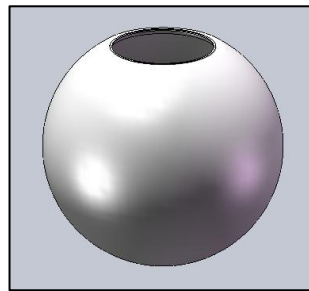

FIG.3 ACRYLIC GLOBE
2. ACRYLIC GLOBE. (shown in FIG. 3)